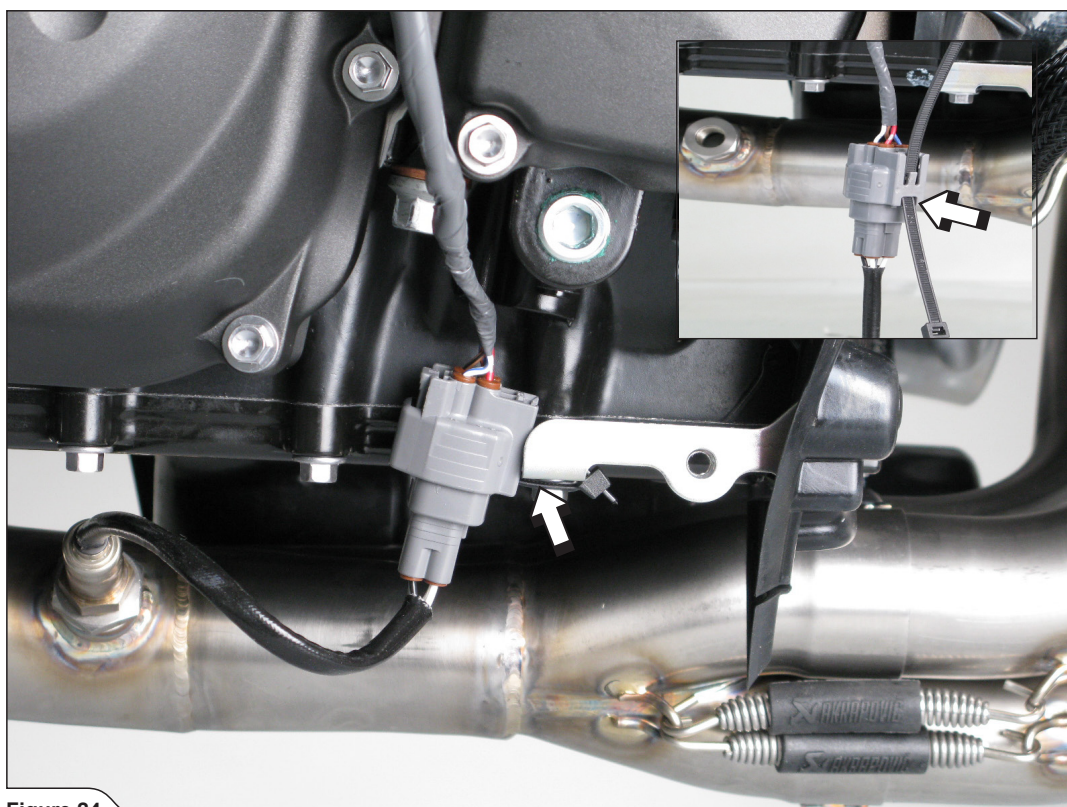

Figure 24
6. **For Optional Headers only:** reposition and secure the lambda sensors' connector as shown - use additional plastic tie wrap (Figure 24).